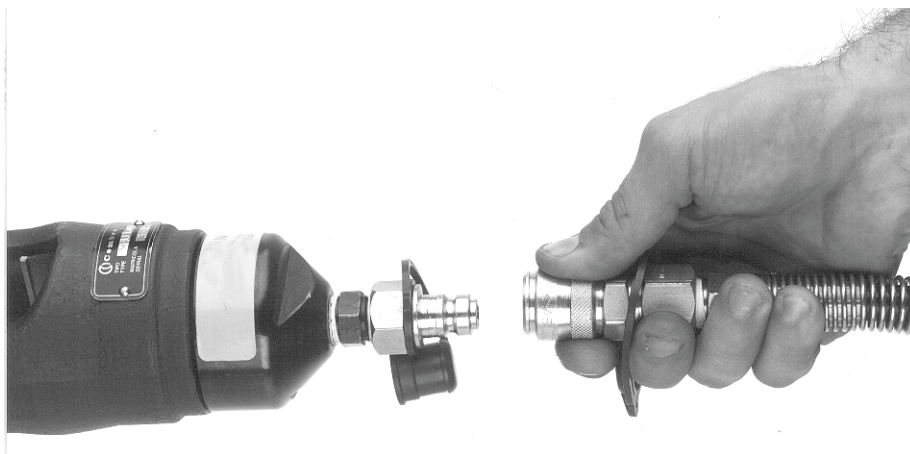

FIG. 2 SELF-LOCK QUICK COUPLER
- Coupler: the pump is supplied with a flexible, high pressure hose, complete with a "quick-lock" female coupler, suitable for connection to a **Cembre** hydraulic crimping or cutting head (see Fig. 2).